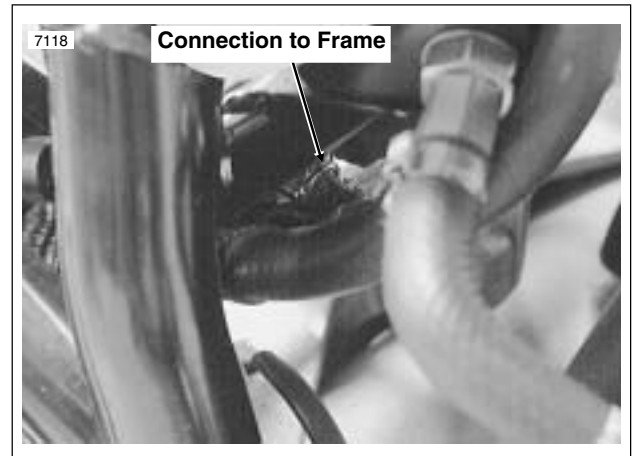

Figure 7-34. Negative Battery Cable
3. Connect tester leads to battery posts and place induction pickup over negative (black) cable. See Figure 7-34.
Positive battery cable runs from starter post to positive battery terminal. Negative battery cable runs from frame to negative battery terminal. See Figure 7-34.